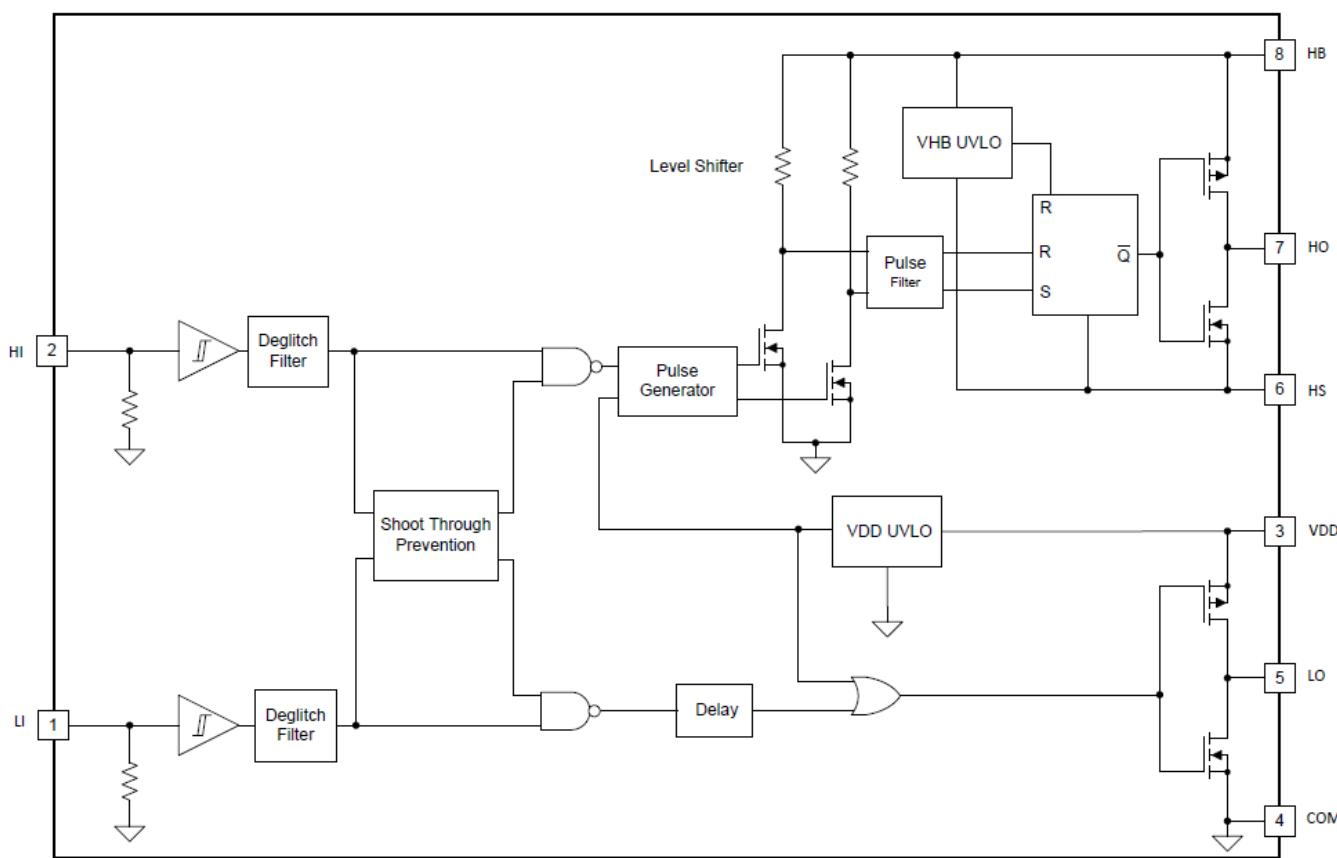

図 10. UCC27712-Q1 Functional Block Diagram
In bridge topologies like half-bridge or full-bridge, the source and emitter pin of the top-side power IGBT switch is referenced to a node whose voltage changes dynamically; that is, not referenced to a fixed potential, so floating-driver devices are necessary in these topologies. As 図 10 shows, the UCC27712-Q1 consists of one ground-referenced channel (LO) and one floating channel (HO), which is designed for operating with bootstrap or isolated power supplies and can handle up to 600 V. The driver can be used with 100% duty cycle as long as HB-HS can reach a value above the UVLO of the high side. The device features fast propagation delays and excellent delay matching between both channels. On the UCC27712-Q1, each channel is controlled by its respective input pins. The device features robust drive with large negative voltage tolerance on its inputs, high dV/dt tolerance, and wide negative transient safe operating area (NTSOA) on the switch node (HS).